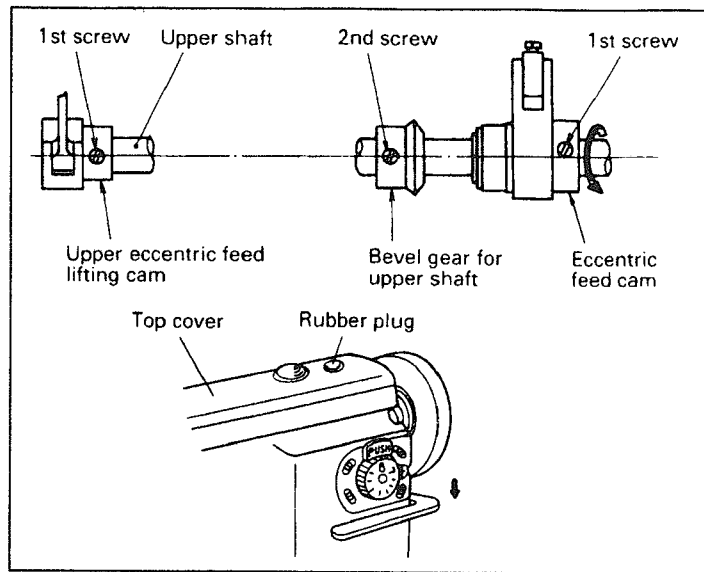

Fig.33
### 30、 Adjustment of feed timing (Fig.33):
1) The standard position of the eccentric feed cam and eccentric feed lifting cam are illustrated to Fig.33